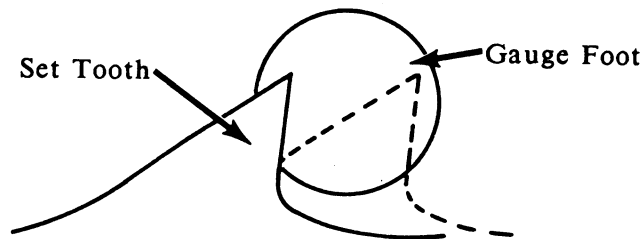

FIGURE 9
4. Remove the alignment shim and mount a blade in the blade supports as previously described. Readjust the clamping fixture and blade rest screws as described earlier. Rotate the blade around the supports until a tooth set toward the dial indicator is positioned in front of the gauge foot. Throw the clamp handle to clamp the blade so the tip of the tooth is located to one side of the gauge foot (See Figure 9). Note the reading on the dial indicator, unclamp the blade and move so that the tip of the same tooth is located on the other side of the gauge foot. Reclamp the blade and check the dial reading again. When the gauge foot is properly aligned in the horizontal plane, these two readings will be identical ($\pm .0005$).